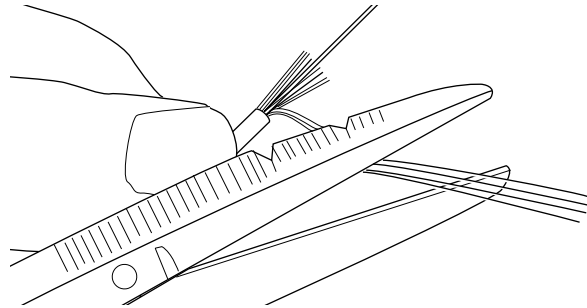

Figure 4
**4.3** Cut the aramid yarn to length with scissors (Figure 4).